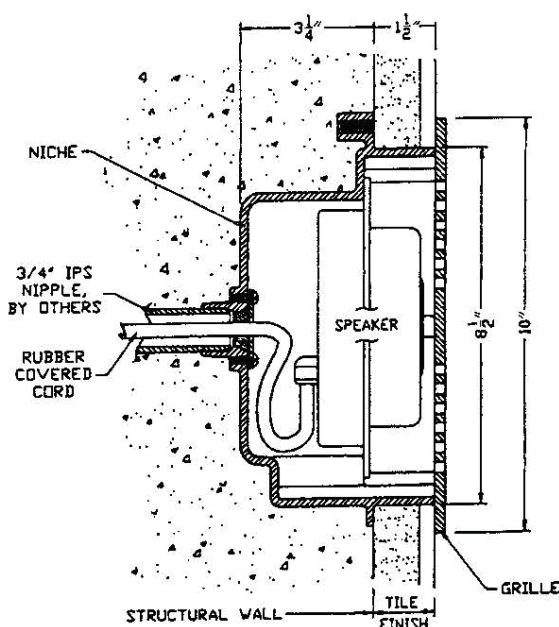

Figure 1
For new pool construction and modification of older pools, installing the UW30 flush with the sides of the pool makes a very neat and unobtrusive installation. The speaker is mounted in a wet-niche (Paragon Part #68102 or equivalent) in the same manner as an underwater light. Figure 1 shows a typical installation. The speaker is mounted up to 1.2 m (4 ft.) below the surface of the water and flush with the side of the pool. (For installation in water depths lower than recommended, please contact factory.) A marine plywood or stainless steel mounting ring or face plate is recommended. (Paragon Part # 68103SS stainless steel or #68103 bronze polished chrome or equivalent). Several pool equipment manufacturers have wet-niches available into which the UW30 may be installed. See your local pool supplier for further information. You may contact Paragon at: KDI Paragon, Inc., 341 Route 55 Westwing, LaGrangeville, NY 12540, Phone: (845) 452-5500